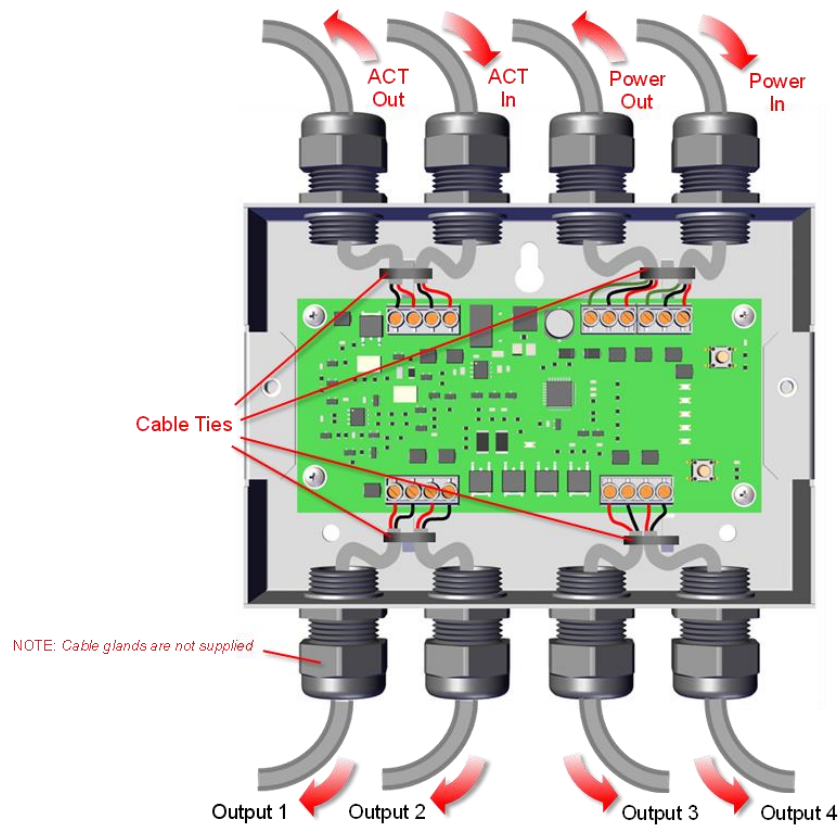

Figure 3 - FP-SEQACT knockout and gland positions.
3. Remove the required knockouts for the installation wiring. Install gland seals where you have removed the knockouts. See Figure 3.